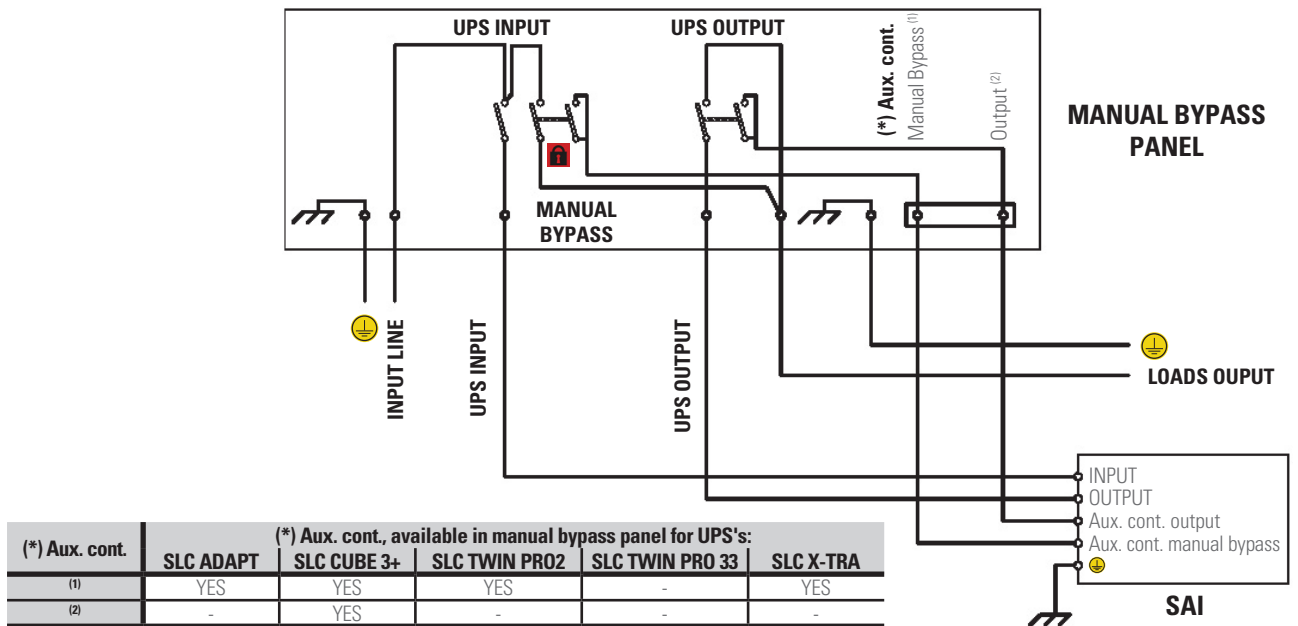

Fig. 3. Generic manual bypass panel for standard UPS.
- Generic manual bypass panel for a standard UPS (Fig. 3).